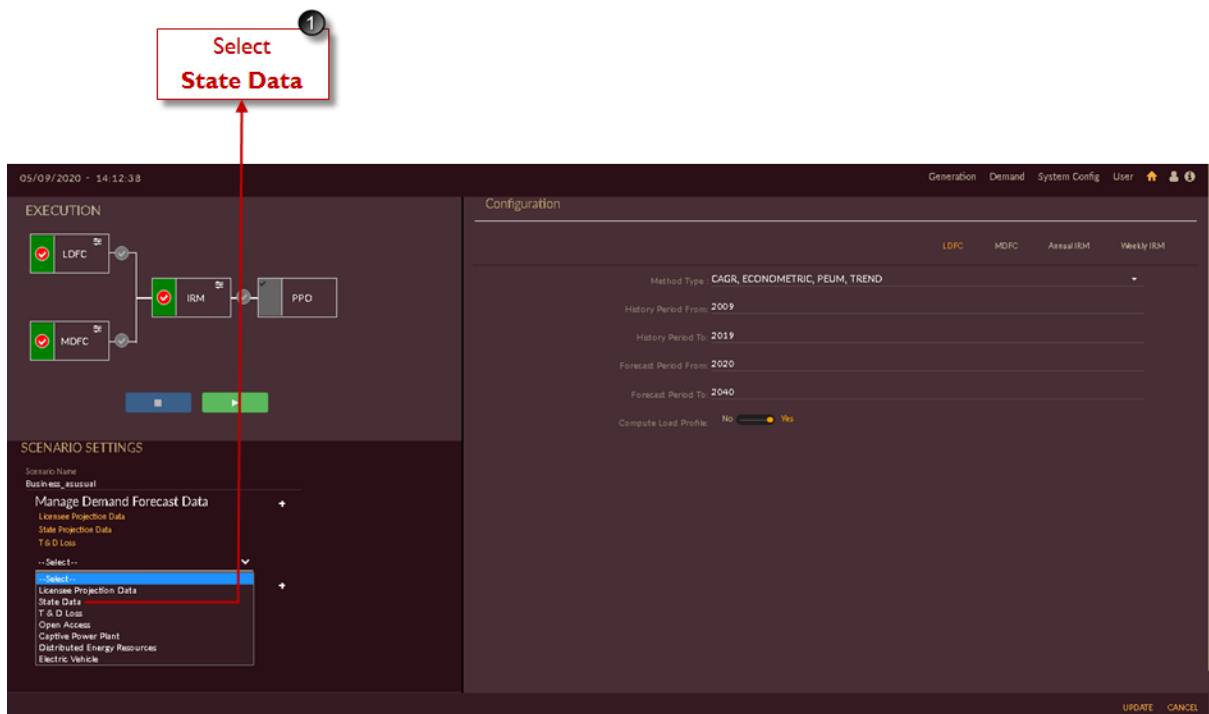

Figure 79. Manage State Projection Data
- I. Click on **Manage Demand Forecast Data**  icon and select **State Data** from the drop-down list as shown in Figure 79.